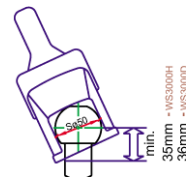

Fig. 1: Ball tow bar of towing vehicle
1.3 The drawbar ball coupling WS 3000 can only be used together with coupling balls to DIN 74058 / ISO 1103 if the ball neck is free from attachment parts within a range of 35 mm in the case of the WS 3000 H, or within a range of 36 mm in the case of the WS 3000 D (Fig. 1).